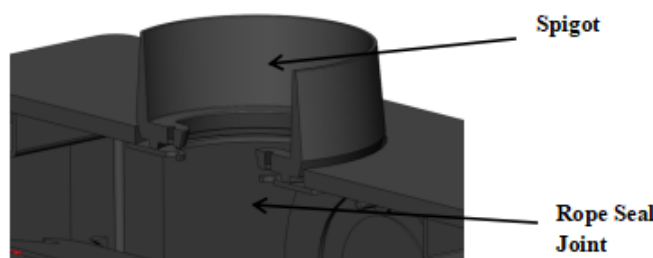

Fig. 1.Flue & Spigot Fitting
- Refer to **Figure 1** for a visual representation of the correct fitting method.
- **Fig. 1. Flue & Spigot Fitting**